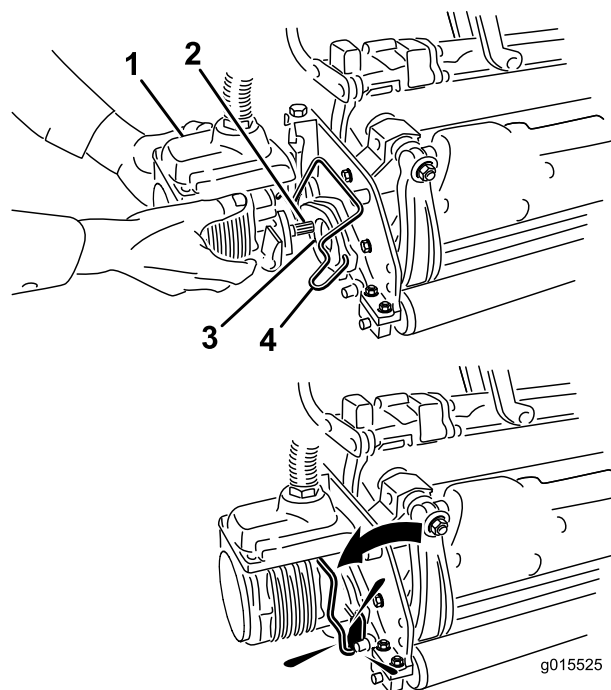

Figure 14
11. Coat the spline shaft of the cutting unit motor with clean grease (Figure 14).
12. Insert the motor into the left side of the cutting unit (as viewed from the operator's position) and pull the motor retaining bar on the cutting unit toward the motor until you hear an audible “click” from both sides of the motor (Figure 14).